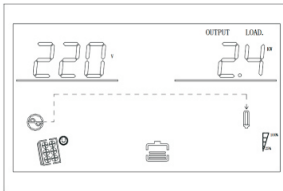

Figure 1-6 Display page 4
**Display page 4:** Output Information shows the output voltage and output power, as shown in Figure 1-6